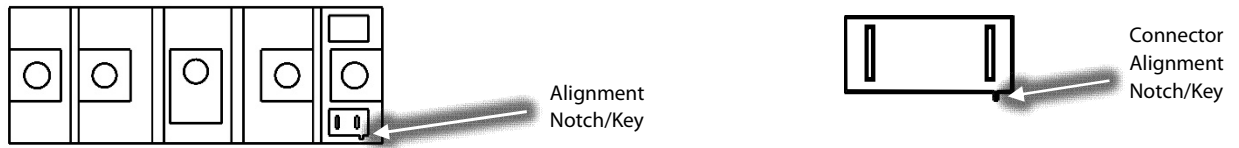

Figure 23 – SCR Gate Connector Alignment
- a. Install six connectors onto the SCRs. Plug each pigtail into its respective SCR making sure you line up the “key” on the pigtail connector to the “key” of the SCR itself. This may require the use of small forceps or needle nose pliers. Refer to Figure 23 – SCR Gate Connector Alignment.